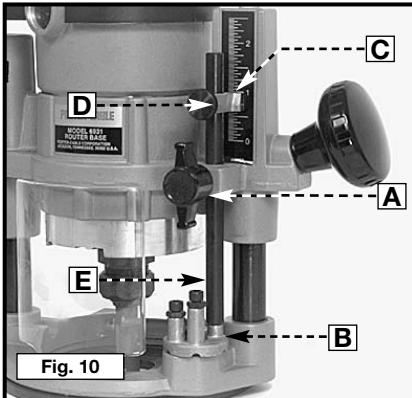
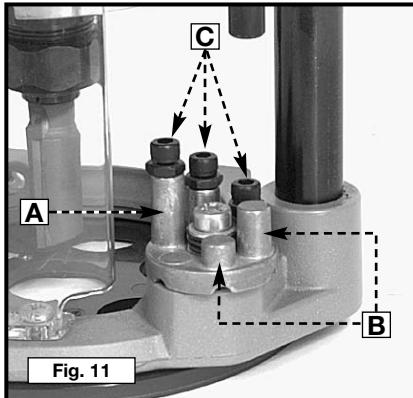
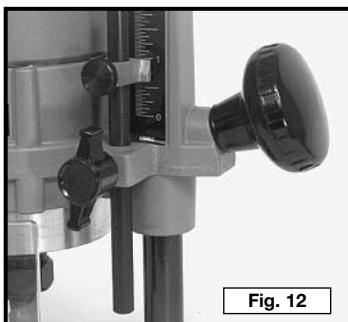

Fig. 10
Fig. 11
Fig. 12
1. Loosen depth rod locking knob (A) Fig. 10, and depth indicator knob (D) Fig. 10, allowing the depth rod (E) Fig. 10 to contact one of the turret stops (B) Fig. 10. Normally the deepest desired cut is set with the depth rod resting on the shortest turret stop (A) Fig. 11. The other two fixed stops (B) Fig. 11 provide reduced cutting depths of 1/4" and 1/2" respectively. The three adjustable stops (C) Fig. 11 may be adjusted to any desired height. Any combination of fixed and/or adjustable stops may be utilized to achieve the desired depths required for a particular job.
- Position depth indicator (C) Fig. 10 at the "0" position and tighten the knob.
- Loosen depth-rod locking knob (A) Fig 10, and raise until indicator aligns with the graduation representing the desired depth of plunge. (The example in Fig. 12 shows setting for 1" plunge.)